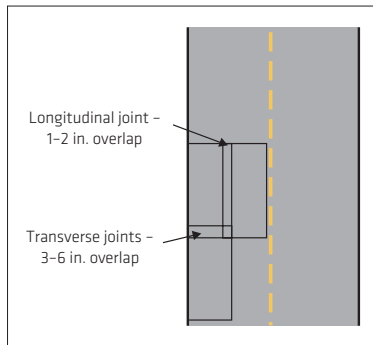

FIGURE 4: Overlapping GlasGrid across transverse or longitudinal joint
- Transverse joints should be overlapped in the direction of the paver by 3-6 in. (75 to 150 mm); longitudinal joints should be overlapped by 1-2 in. (25-50 mm). The overlapping of two lengths of GlasGrid is shown diagrammatically in Figure 4.